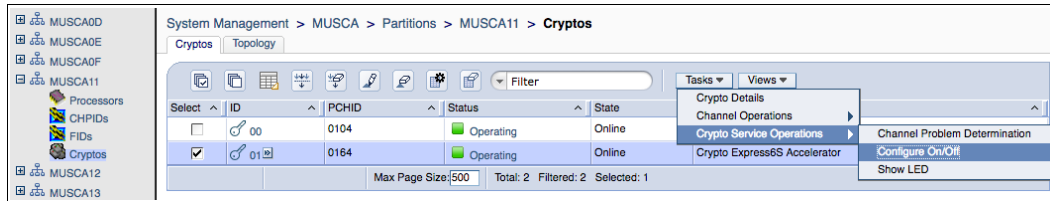

Figure 10-27 System Management: LPAR Crypto Selection, Configure Offline
1. Select the logical partition whose Crypto IDs you want to change to Standby. For example, select the Accelerator (01), that is in an online state. Click **Tasks** → **Crypto Service Operations** → **Configure On/Off task** (see Figure 10-27).